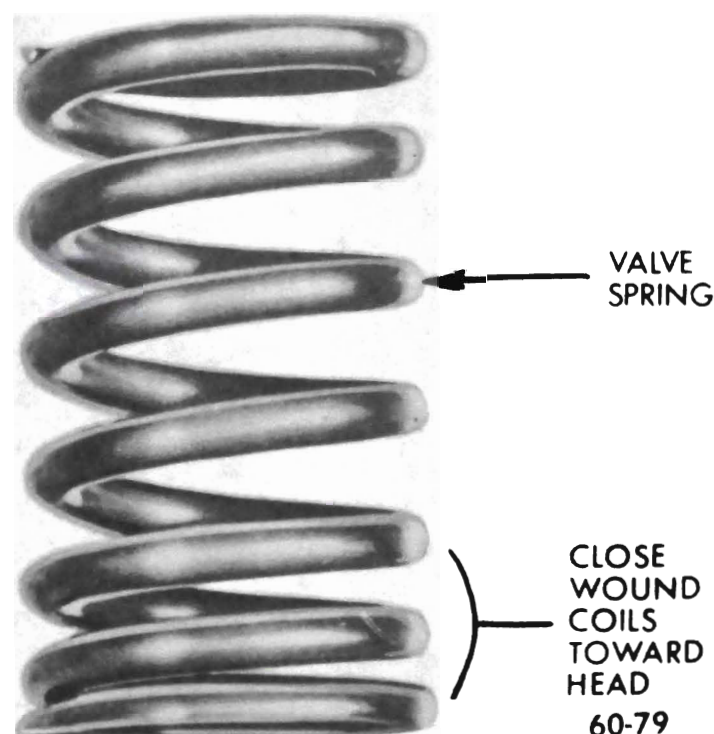

Figure 60-22 - Valve Spring (350 cu.in.)
14. Install valve springs on the 350 cu.in. and on 455 cu.in. Riviera G.S., with closely-wound coil toward the cylinder head. See Figure 60-22.